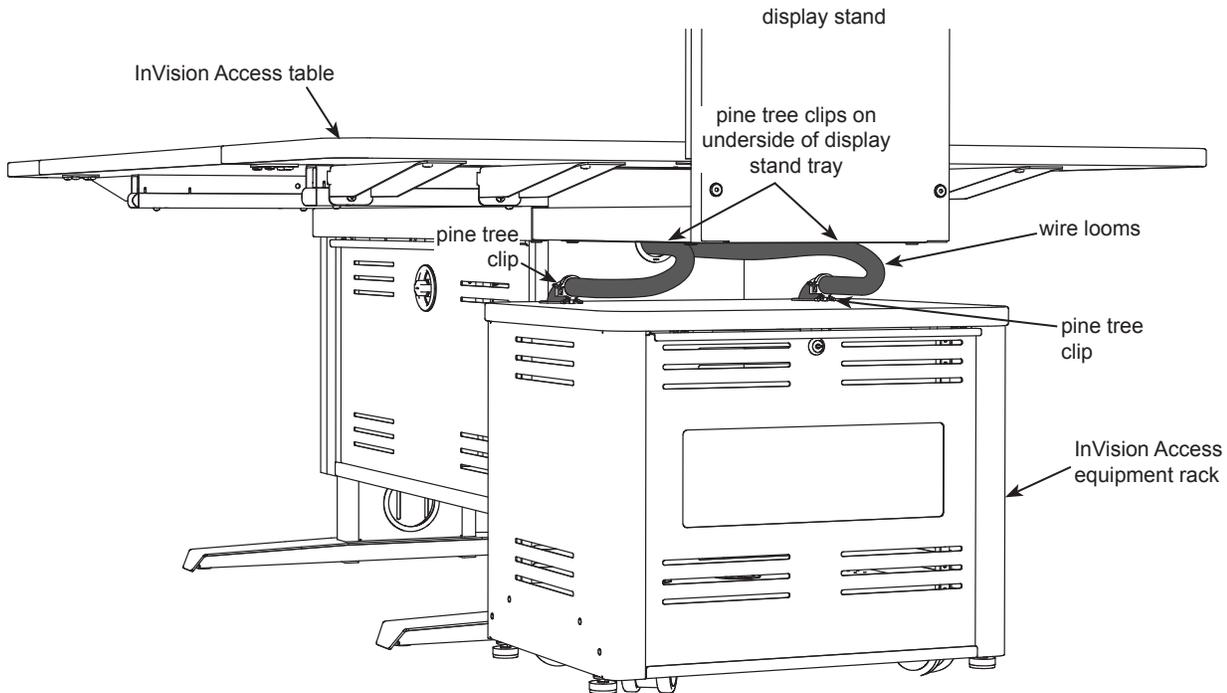

Figure 6
2. On the top of the worksurface, remove the two small hole plugs and insert (2) pine tree clips. **Figure 6.**
3. Insert (2) pine tree clips to the underside of the display stand tray.